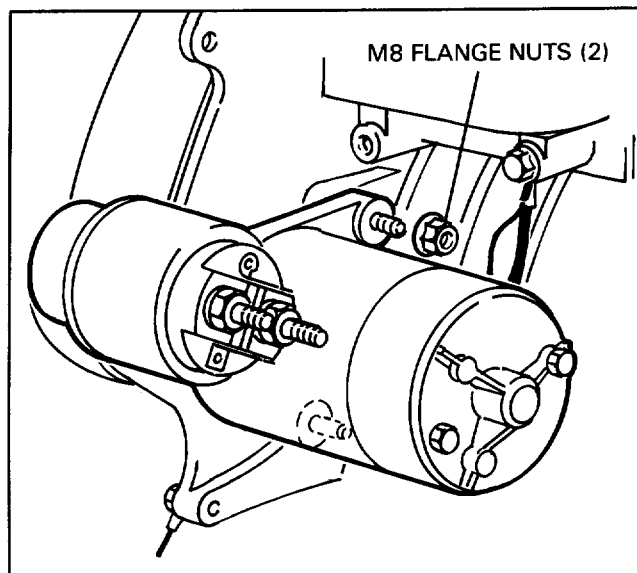

Figure 8
9. Secure starter motor assembly to engine with two M8 flange nuts (Figure 8).